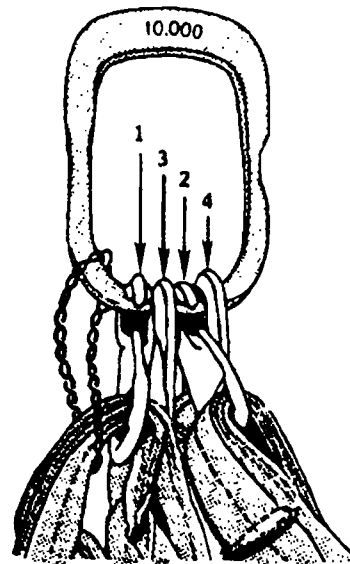
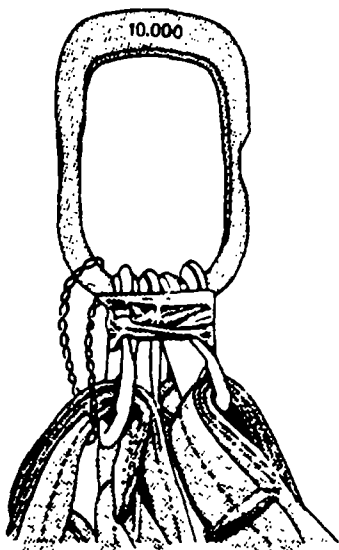

Figure 1-9. Legs Hooked in Sequence
Figure 1-10. Taped Hooks
Step 4 - Position one person on top of the load with the apex fitting. Legs are hooked to the apex in the following sequence: 1, 3, 2, and 4, to provide equal lift on all legs (Figure 1-9). Hooks do not have to face in the same direction. After connecting all four hooks to the apex fitting, tape or tie the four hooks together to prevent them from coming unhooked when the apex is laid down (Figure 1-10).